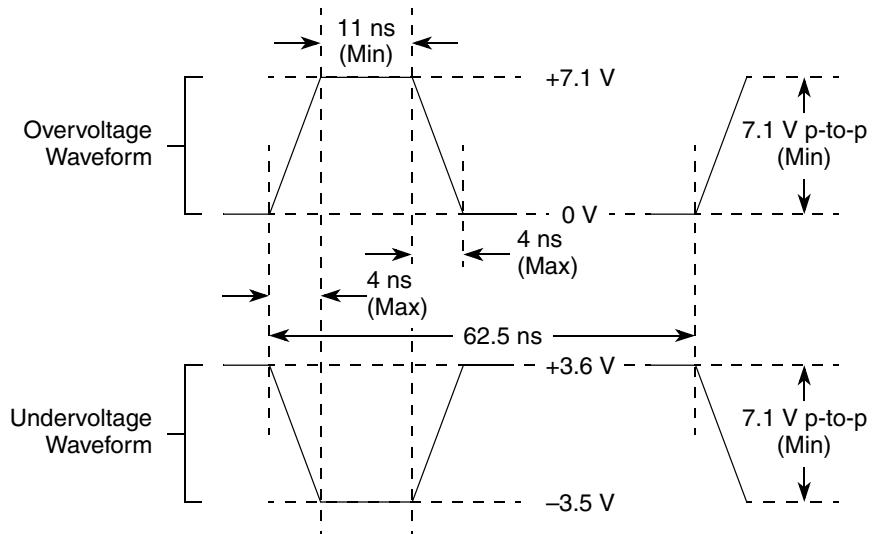

Figure 3. Maximum AC Waveforms on PCI interface for 3.3-V Signaling
- O_V_{IN} on the PCI interface can overshoot/undershoot according to the PCI Electrical Specification for 3.3-V operation, as shown in Figure 3.
Figure 3 shows the undershoot and overshoot voltage of the PCI interface of the MPC8347EA for the 3.3-V signals, respectively.